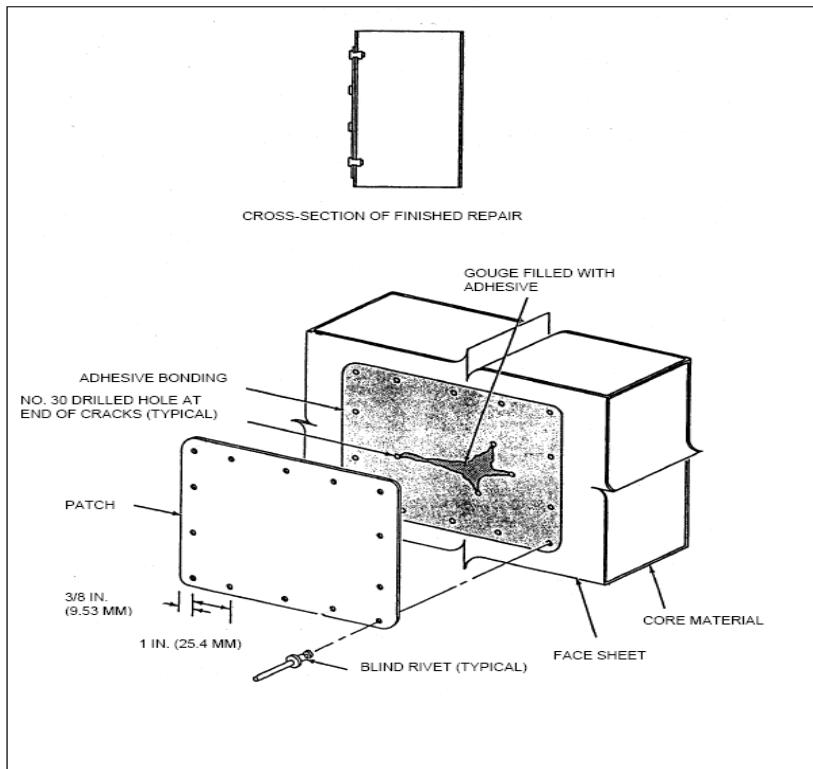

Figure 4-58. Typical repair procedure for punctures less than  $\frac{1}{2}$  inch (12.70 mm)
The following procedures should be used to repair skin punctures with a diameter less than  $\frac{1}{2}$  inch (12.70mm) or a depth in core of less than  $\frac{1}{2}$  inch (12.70mm) (see Figure 4-58). Proceed as follows:
5. Layout rivet hole pattern around edge of patch as shown in Figure 4-58.
10. Fill cavity panel as shown in Figure 4-58 using dent filler, Devcon F (Item 20, WP 0057 00).